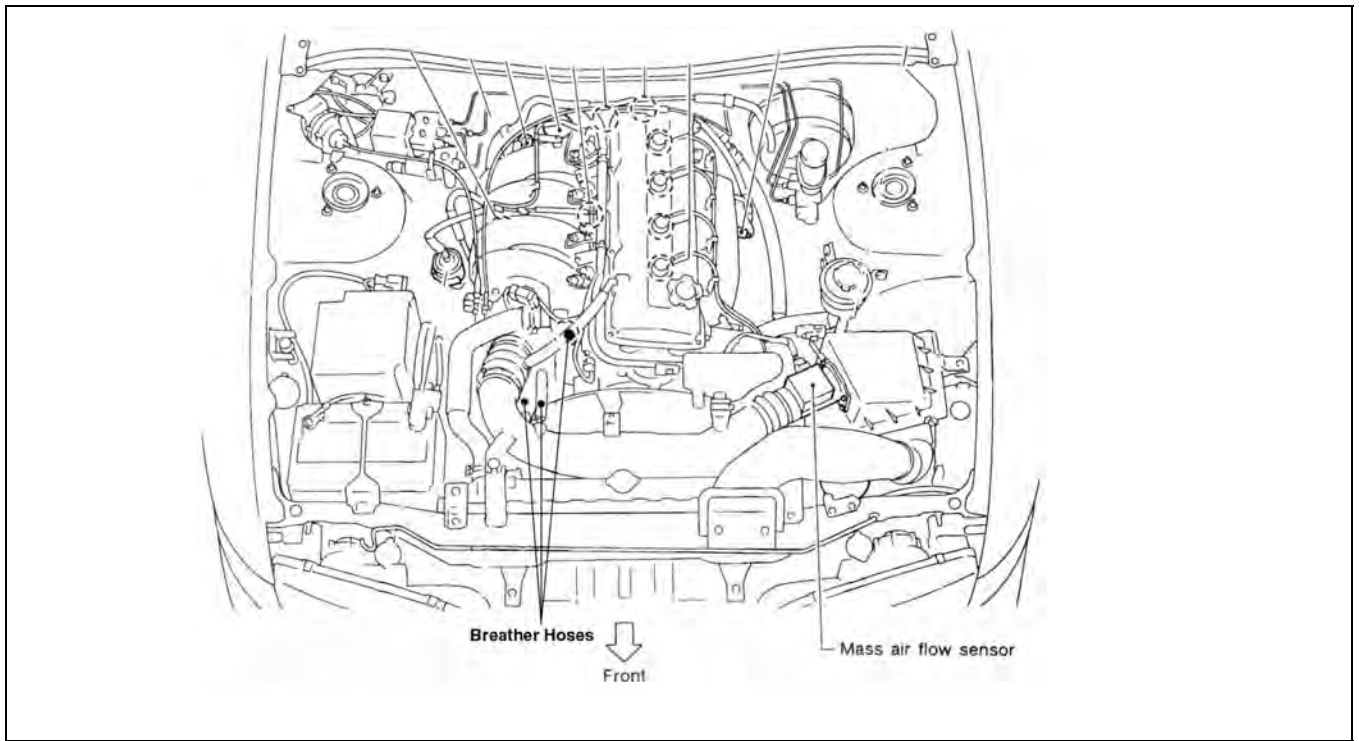

Fig. 1
- a) Before removing any of the O.E. components, **label each individual part so that no components become mixed up during the installation process.** There are three breather hoses and a Mass Air Flow Sensor (MAS). Refer to the following diagrams for the identification of these components. **(Fig. 1)**